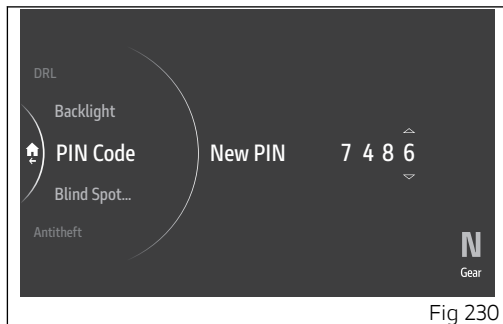

Fig 230
- Repeat the procedure until entering all 4 digits (Fig 230).